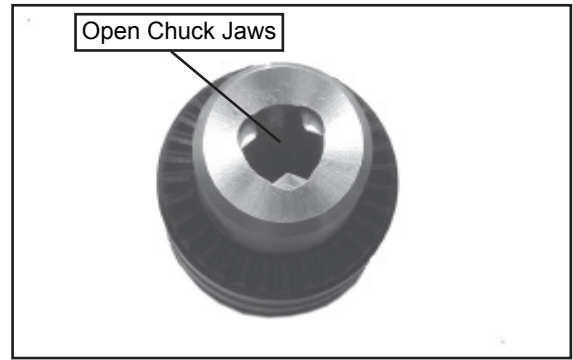

Figure 10
1. Open the chuck jaws as wide as possible to prevent any damage. (Fig.10)